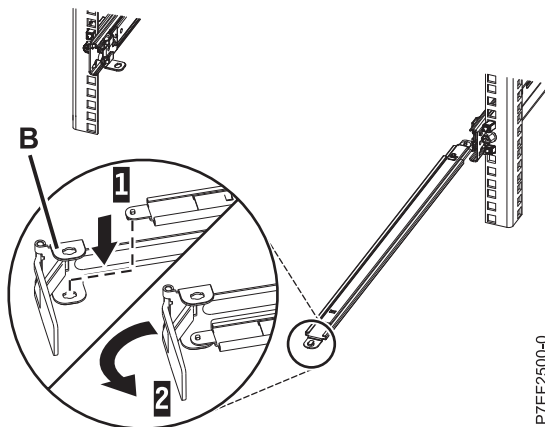

Figure 10. Securing the cable-management stop bracket to the support arm
3. Locate the hole at the bottom inside corner of the L-shaped cable-management stop bracket (**B**). Position the unattached end of the support arm so that the locking tab on the underside of its tip aligns with the bracket hole. Insert the tab into the hole (1) and turn the bracket (2) to secure it to the support arm. For details, see Figure 10.